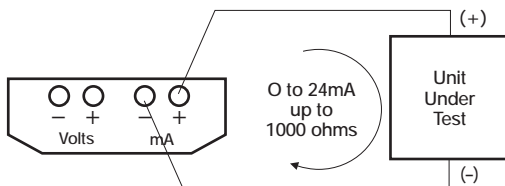

Figure 2
2. In the current mode, the maximum load driving capacity of the IVC-222HP11 is 1000 ohms. If connections to the mA jacks are open or the load is greater than the compliance voltage while trying to source a current, the word "OPEN LOOP" will appear intermittently on the LCD readout. (See Figure 2)